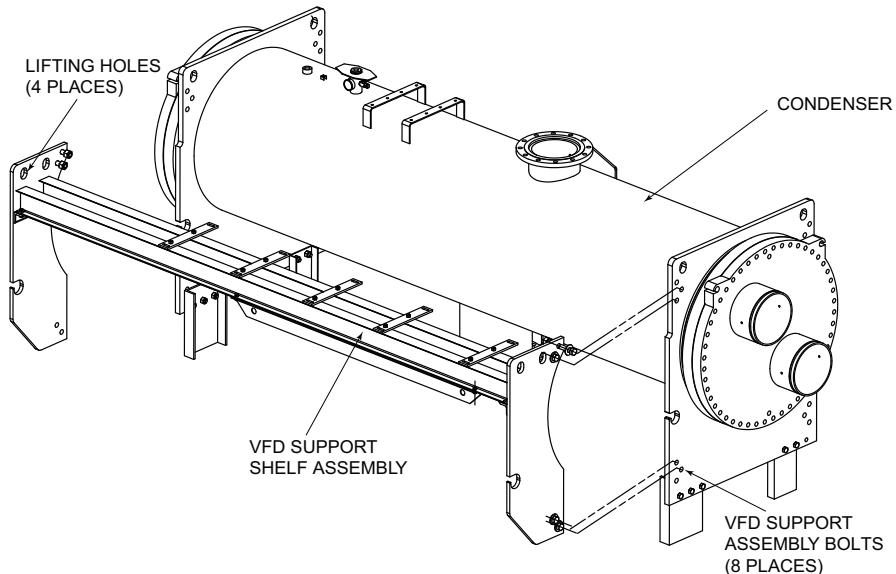

Fig. 26 – 900A or 1200A VFD Support Assembly Installation
3. The VFD support assembly can be removed from the condenser if it is necessary to reduce the width of the condenser assembly. The eight 1 1/8-7 bolts that secure the VFD support assembly to the tubesheets should be torqued to 750 ft-lb (1017 N-m) when the support assembly is reinstalled. See Fig. 26.